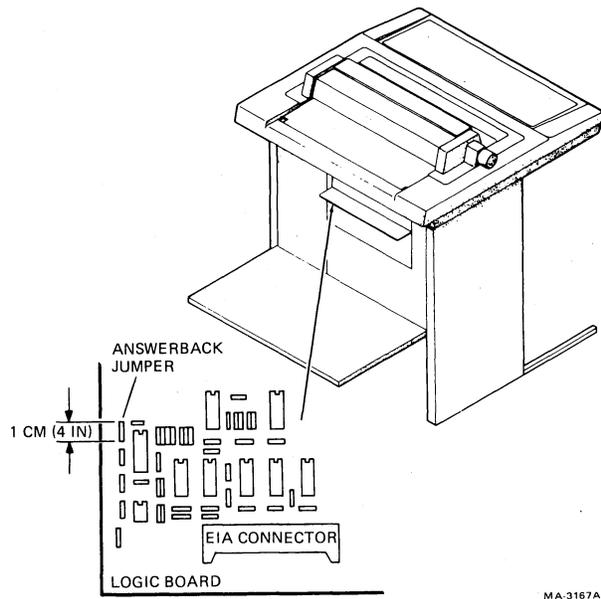

Fig. 38—Answerback Jumper
- (e) Remove the answerback jumper (Figure 38).